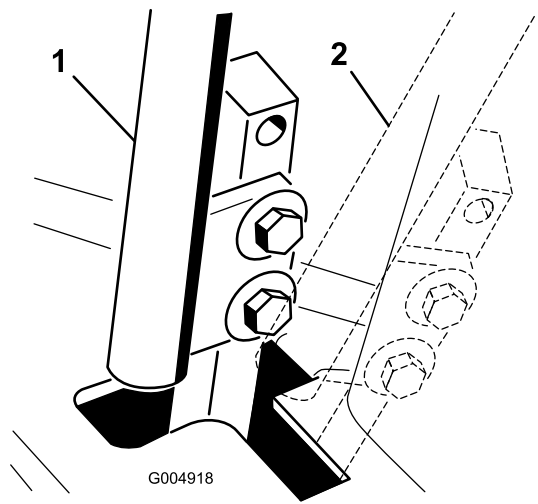

Figure 89
4. Move the control lever to the NEUTRAL position but **not locked** (Figure 89).
6. Check where the control lever is relative to notch in the console (Figure 89).